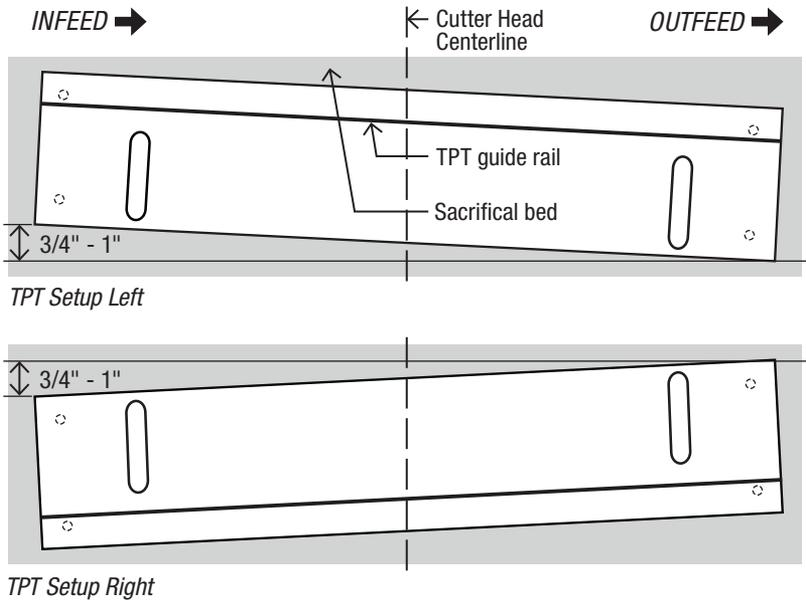

Figure 1 Plan View of TPT Setup (not to scale)
2. Set the TPT base at a slight angle relative to the planer bed. By mounting it this way, the feed rollers will keep your work pieces in contact with the guide rail as well as the TPT table surface. *(Figure 1)*
3. Center the TPT lengthwise under the planer cutter head so that infeed and outfeed ends of the TPT are the same length. *(Figure 1)*
⚠ Feed work pieces on the TPT just as you would normally through your planer with one important precaution: **your work pieces must always remain in contact with the TPT guide rail** to prevent upward drift into the planer cutter head creating an uneven cut or, worse, possible damage to the TPT and planer. Having the TPT set at a slight angle relative to the cutter head, as shown in Figure 1, will ensure your work pieces remain in contact with the guide rail.